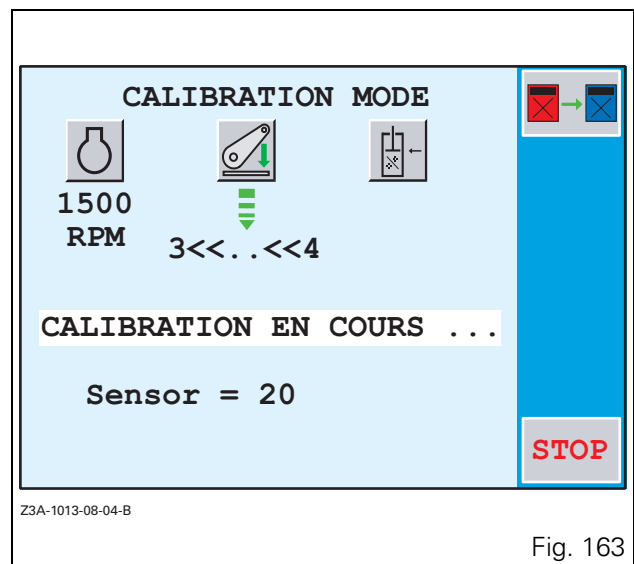
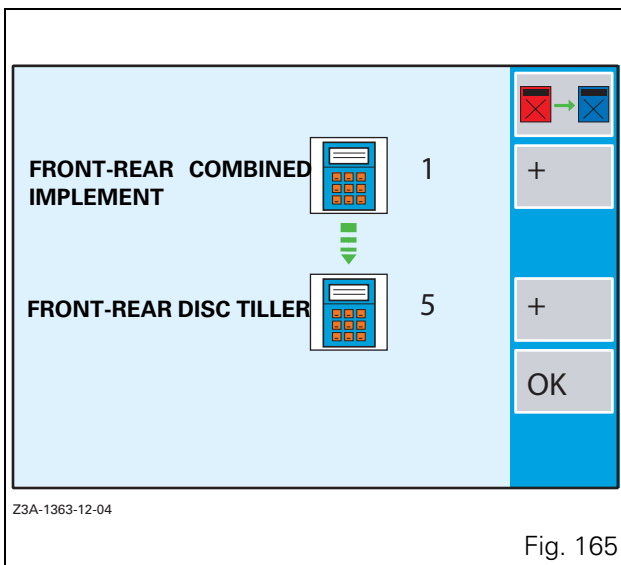

Fig. 163
Fig. 165
- Press the key \llcorner_6 (GO). Calibration starts and a new window is displayed (Fig. 163).
- To download a calibration in another memory, press the key <<1 when the window (Fig. 163) is open. The window (Fig. 165) is displayed.